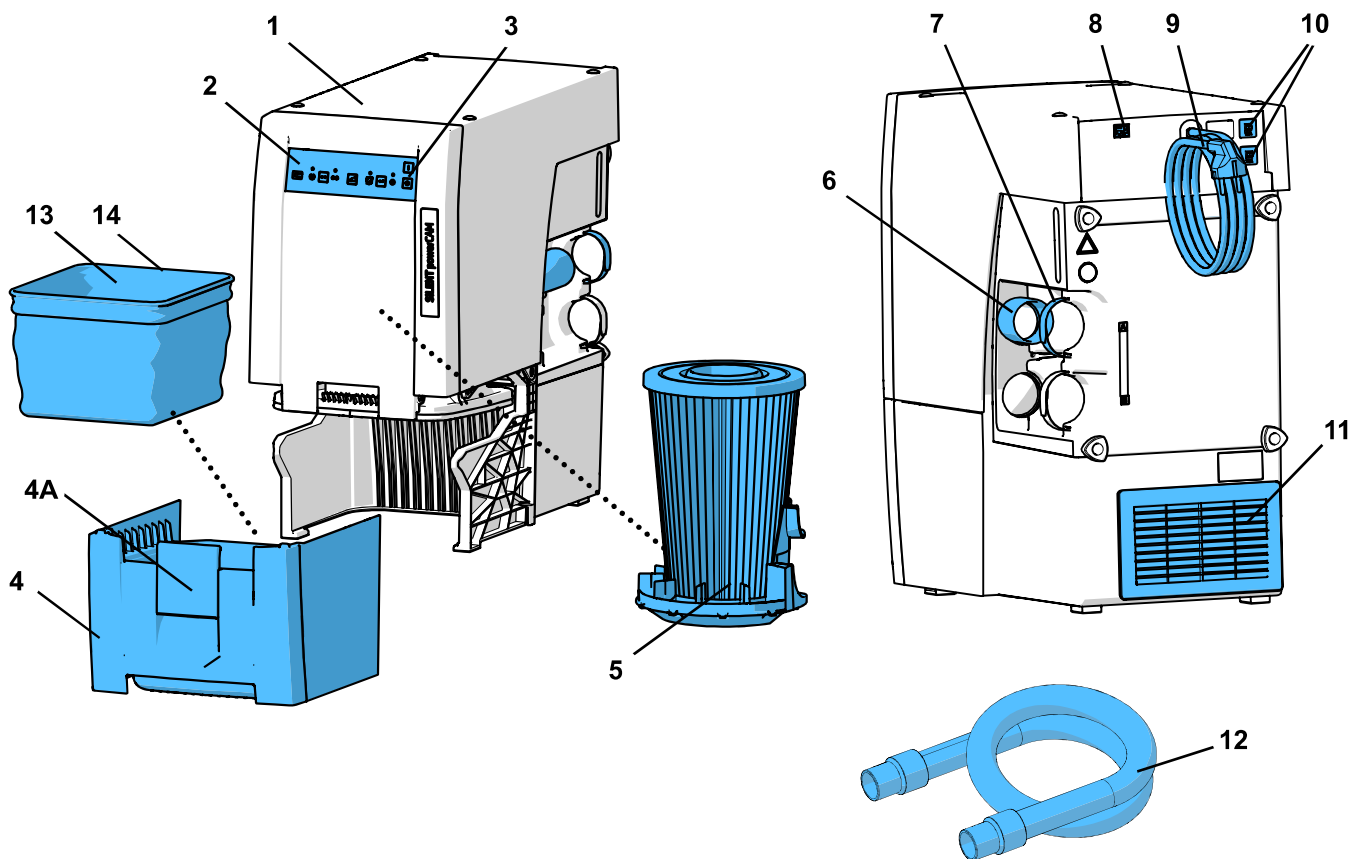

Fig. 1
- The exhaust air outlet (11, Fig. 1) is not blocked.
- External exhaust air duct (A) (see chapter. 4.6).
- An opening in the cupboard back side (B) min. 250 x 120 mm, directly opposite the exhaust air outlet (11, Fig. 1).
- Remove the back side of the cupboard (C), distance from the back of the cupboard to the wall min. 50 mm.
- ⇒ Insert the mains cable (9, Fig. 1) into the building installed wall socket.